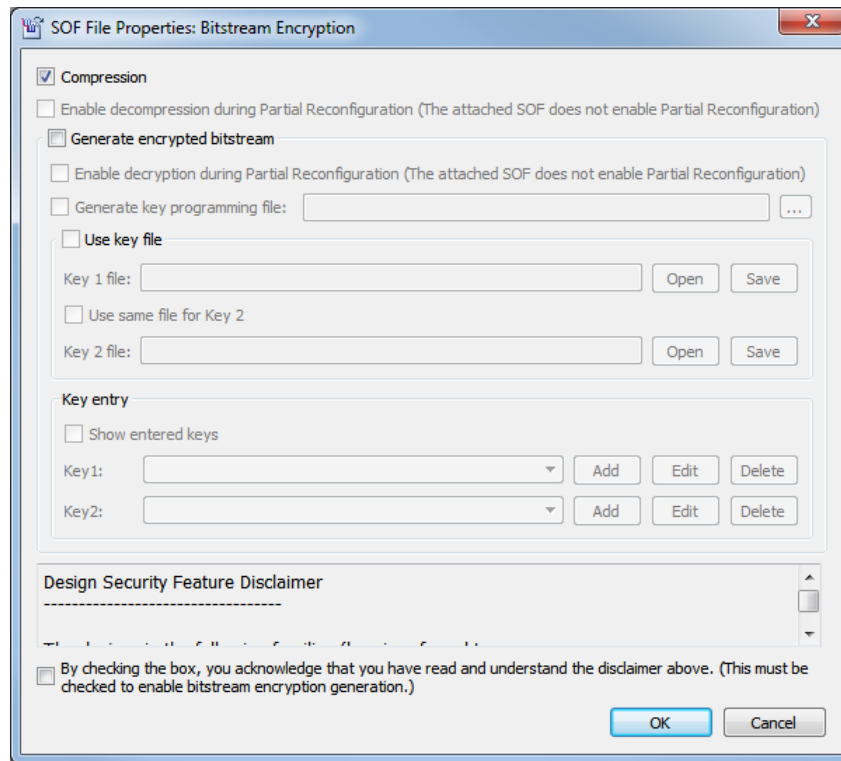

Figure 37. Enabling file compression.
6. Click and highlight the newly added .sof file in the list, then select `Properties`. You should see the window shown in Figure 37. Enable file compression by ticking the checkbox as shown, then press OK.